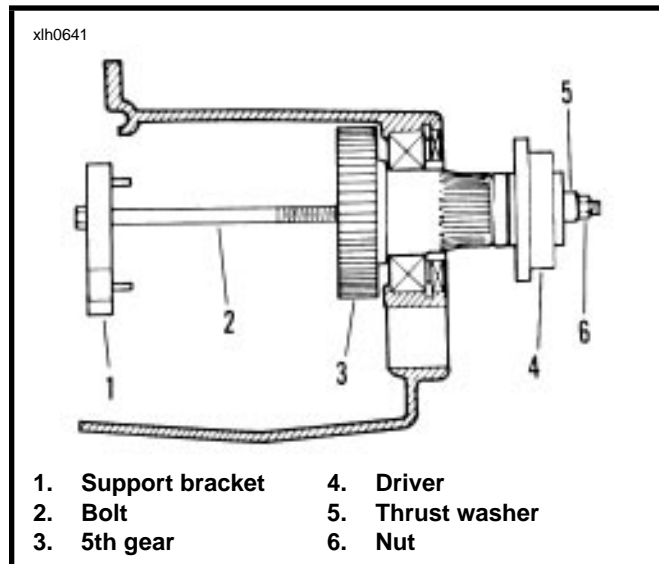

Figure 6-37. Removing Main Drive Gear
4. See Figure 6-37. Insert bolt (2) through support bracket (1) and 5th gear (3).